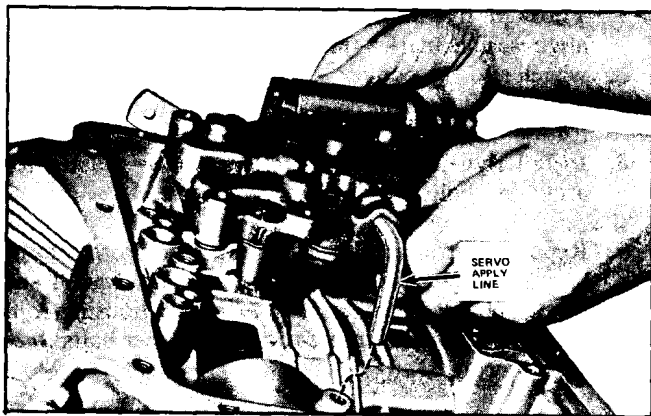

Fig. 7F-79 Installing Valve Body
2. Position new gasket on case and install valve body assembly while carefully guiding servo apply line into its boss in case as valve body is being set into place (Fig. 7F-79). Also, make sure that range selector inner lever properly picks up the manual control lever.
3. Install six (6) valve body-to-case attaching bolts and evenly torque to 15 lb. ft.
5. Install new gasket and suction screen to valve body, torquing its two (2) attaching screws to 2 1/2 lb. ft.